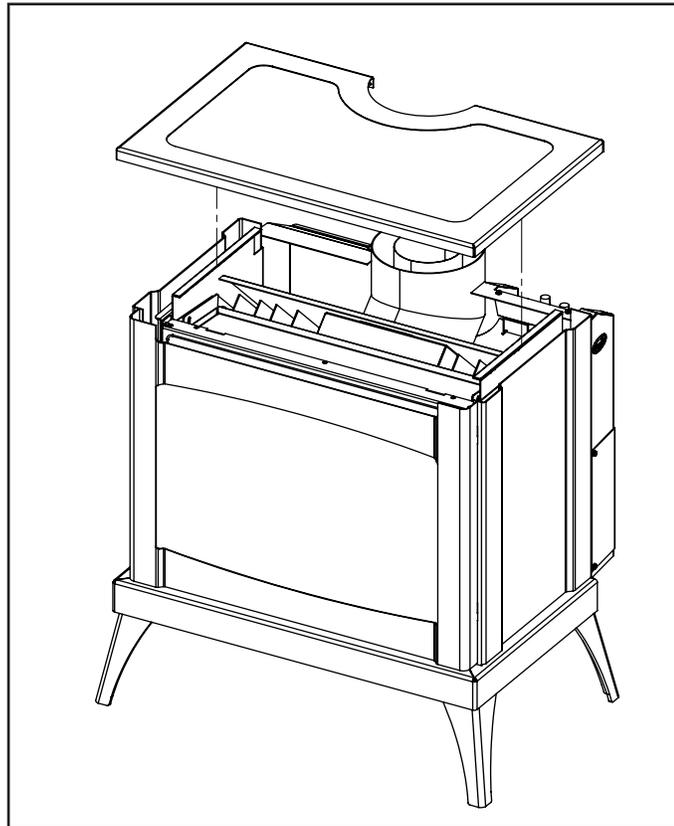

Figure 43: Removal of Stove Top
1. Carefully remove the stovetop and place on a soft surface as not to damage the painted finish (see Figure 43).